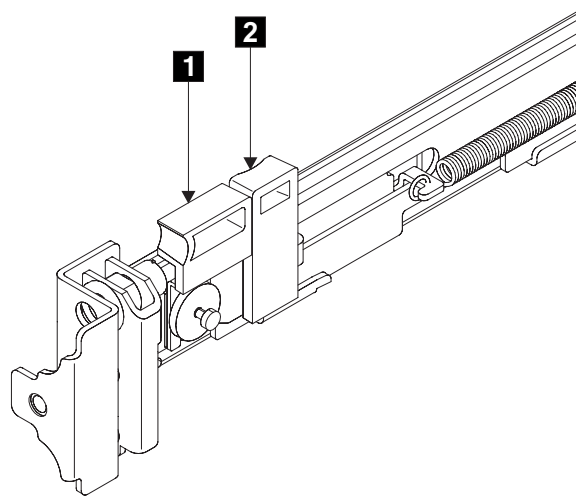

Figure 25. Retracting the latch-lock carrier
2. Put your finger against the side of the latch lever **1**, and put your thumb against the front of the latch lock **2** (see Figure 25 ).